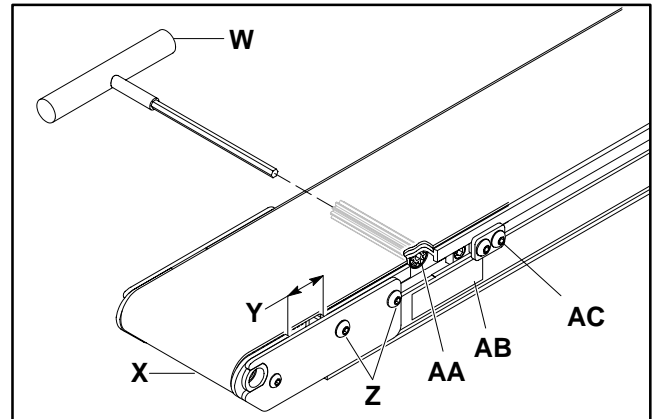
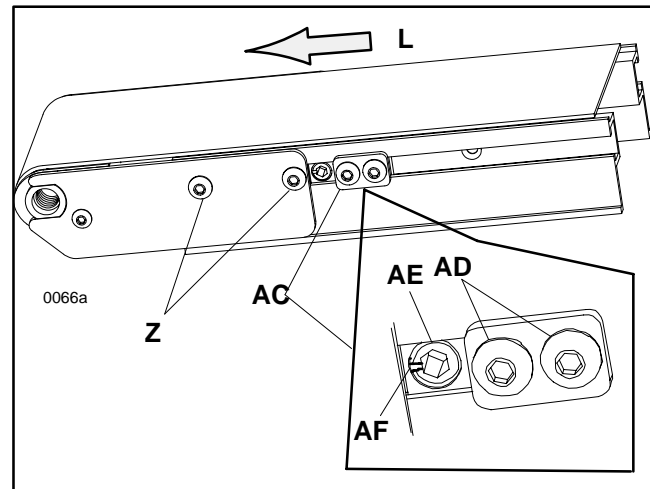

Figure 22
Figure 23
1. Locate tension end (X of Figure 22) of conveyor, identified with a label (AB).
2. If engaged, loosen and slide belt tracking cam assemblies (AC) towards center of conveyor on both sides of tension end (X).
3. Loosen tail cover plate screws (Z) on both sides of tension end (X).
4. Insert a hex key wrench (W) into either end of pinion (AA).
5. Rotate pinion (AA) to extend tensioning end until gap (Y) between pulley plate and conveyor frame measures 1.19” (30 mm) for a new end-driven belt or any center driven belt, or as required to stop drive pulley slippage.
9. Position belt tracking cam against the slide bar while making sure groove is correctly oriented. See Figure 23 on page 12. Then, secure the belt tracking cam assemblies into position on both sides of the conveyor.
Check both ends of the conveyor for proper belt tracking. The belt should track centered between the tail plates on both ends of the conveyor. Conveyor belt tracking should always be adjusted on the discharge end, as determined by the direction of belt travel (L of Figure 23) of conveyor first. Then, check the tracking on the opposite (infeed) end of the conveyor and readjust it, if necessary.
1. Loosen (but do not remove) the two (2) cam clamping plate screws (AD) on both sides of the conveyor discharge.
2. Slide both belt tracking cam assemblies (AC) as far as they can be toward the end of the conveyor.
3. The belt tracking cam (AE) must be set to the low point at the point of contact as illustrated. The slot (AF) in the belt tracking cam should be horizontal and pointing towards the end of the conveyor.
4. Tighten the two (2) cam clamping plate screws (AD), on both sides of the conveyor.
5. **Only loosen the two tail cover plate screws (Z of Figure 23) on the side of the conveyor that the belt is tracking toward.**
6. With the conveyor running, use the 5 mm hex key wrench (W of Figure 22) to slowly rotate the belt tracking cam (AE of Figure 23). Rotate the cam in small increments, in either direction to cause the belt to track away from the conveyor side, until the belt tracks in the center of the conveyor. Always allow the conveyor belt to make several revolutions between adjustments.